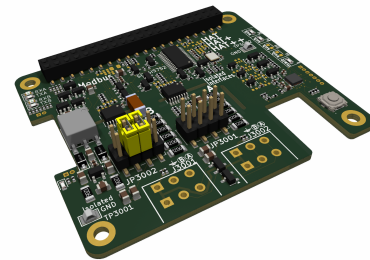

Figure 5: JP3001 / JP3002 RS-485 end-node configuration. Left: 120 Ω termination enabled, bias disabled.
Figures 5 illustrate valid end-node configurations:
- Enable termination without biasing at one bus endpoint (Figure 5, right)
- If needed, enable termination with biasing at the opposite endpoint (Figure 5, left)